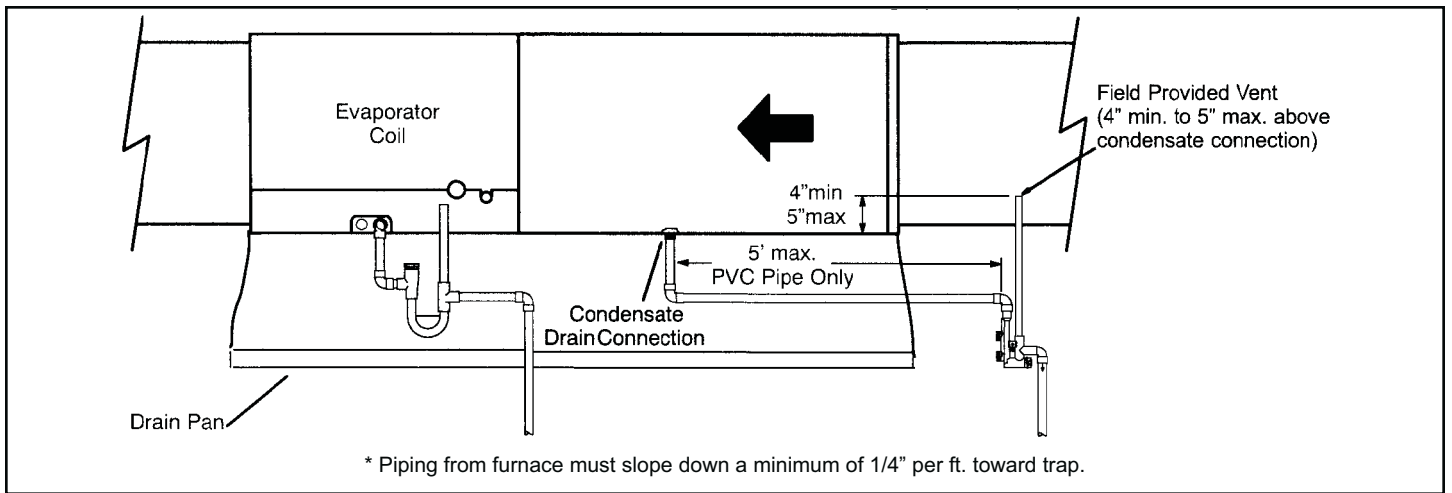
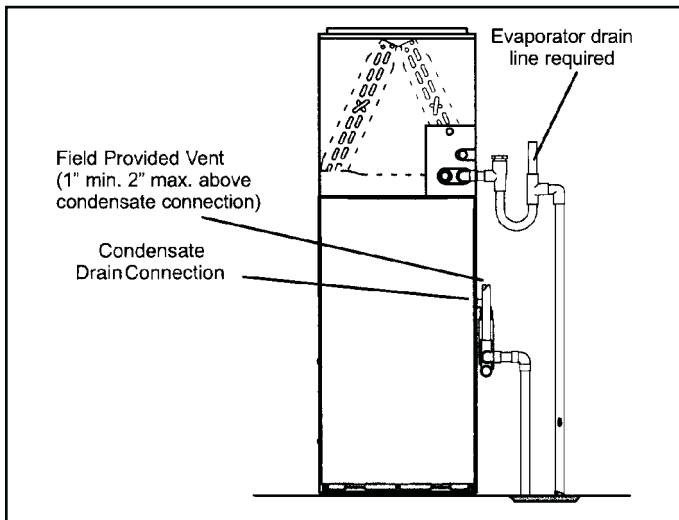
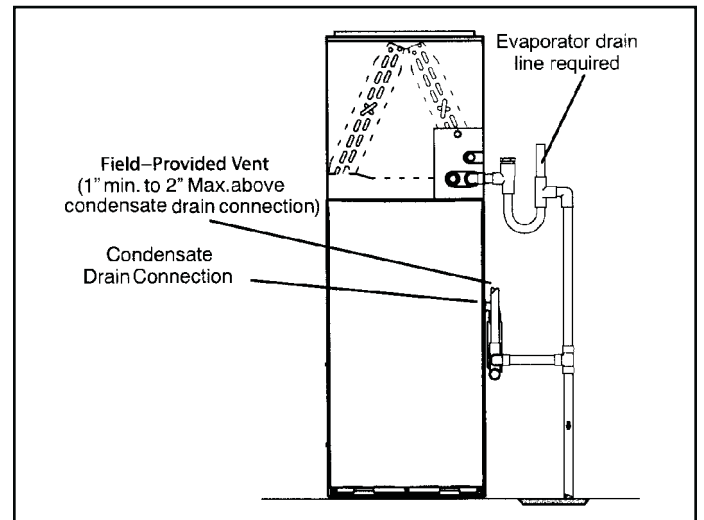
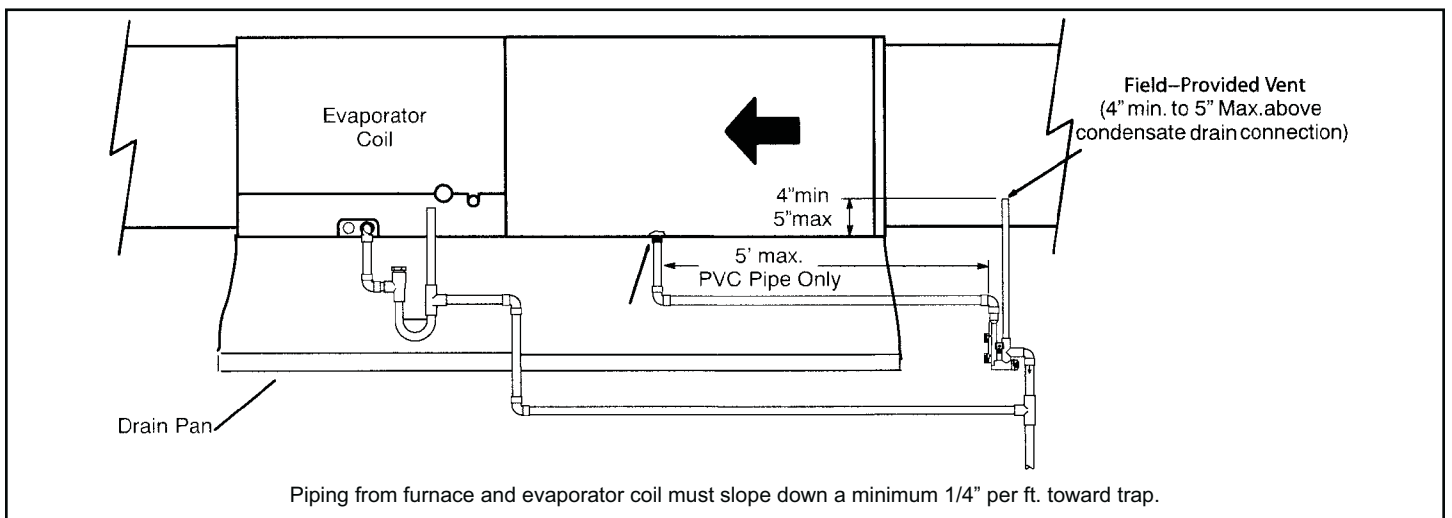

Figure 52. Condensate Trap Locations
Figure 53. Unit with Cooling Coil Using Separate Drain
Figure 54. Evaporator Coil Using a Common Drain
Figure 55. Evaporator Coil Using a Common Drain
5. Figure 52 and Figure 53 show the furnace and evaporator coil using a separate drain. If necessary the condensate line from the furnace and evaporator coil can drain together. See Figure 54 and Figure 55.
Horizontal furnace (Figure 52) - In horizontal furnace applications the field provided vent must be minimum 4" to a maximum 5" length above the condensate drain outlet connection. Any length above 5" may result in a flooded heat exchanger if the combined primary drain line were to become restricted.